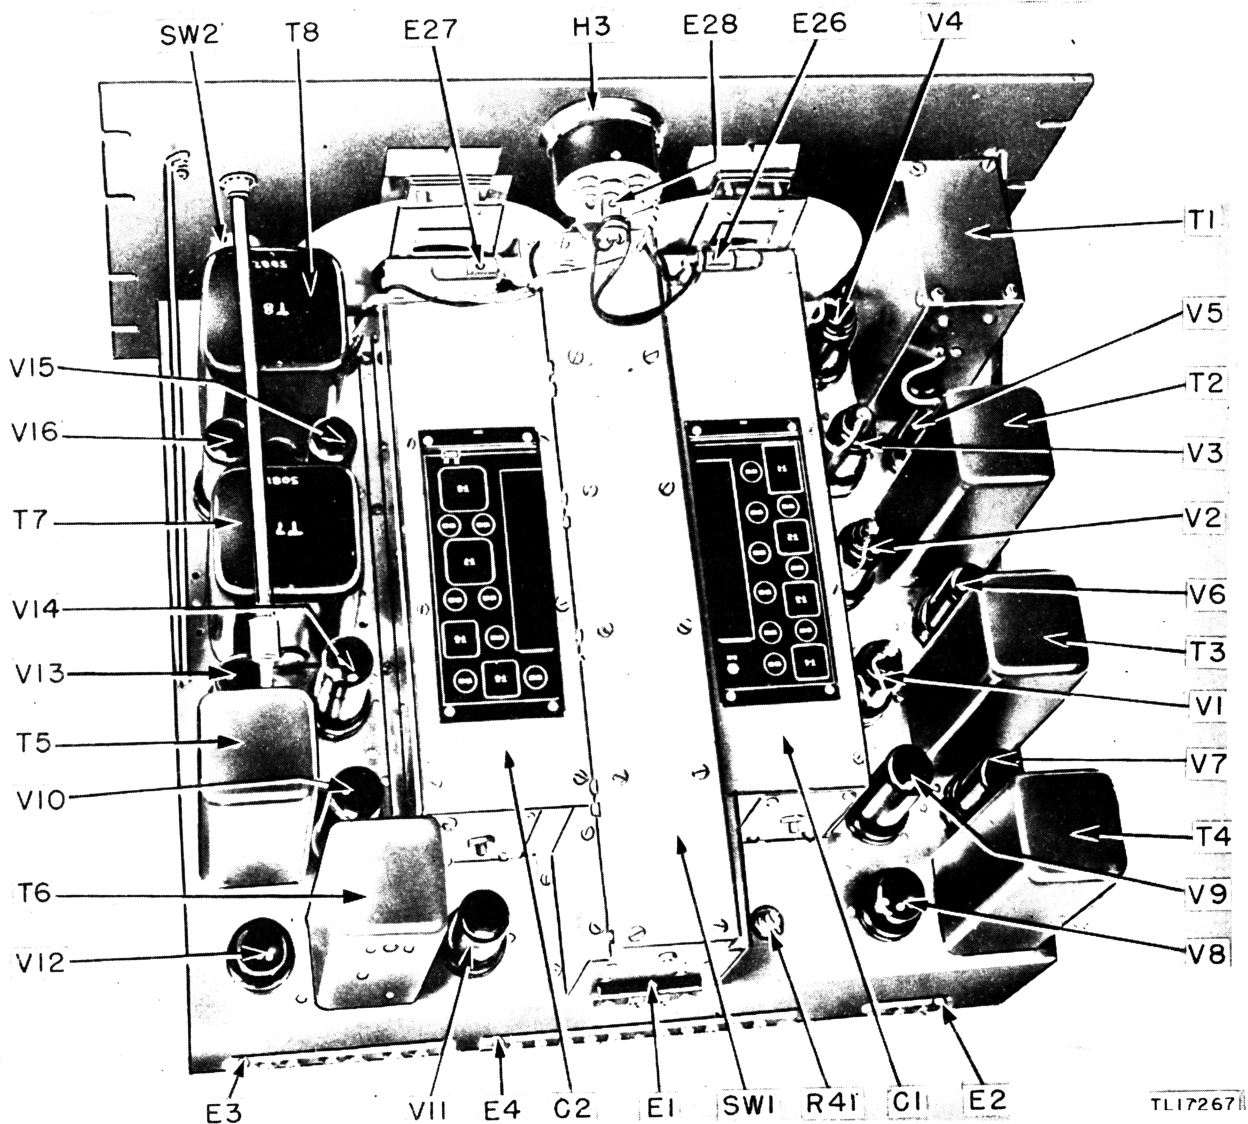
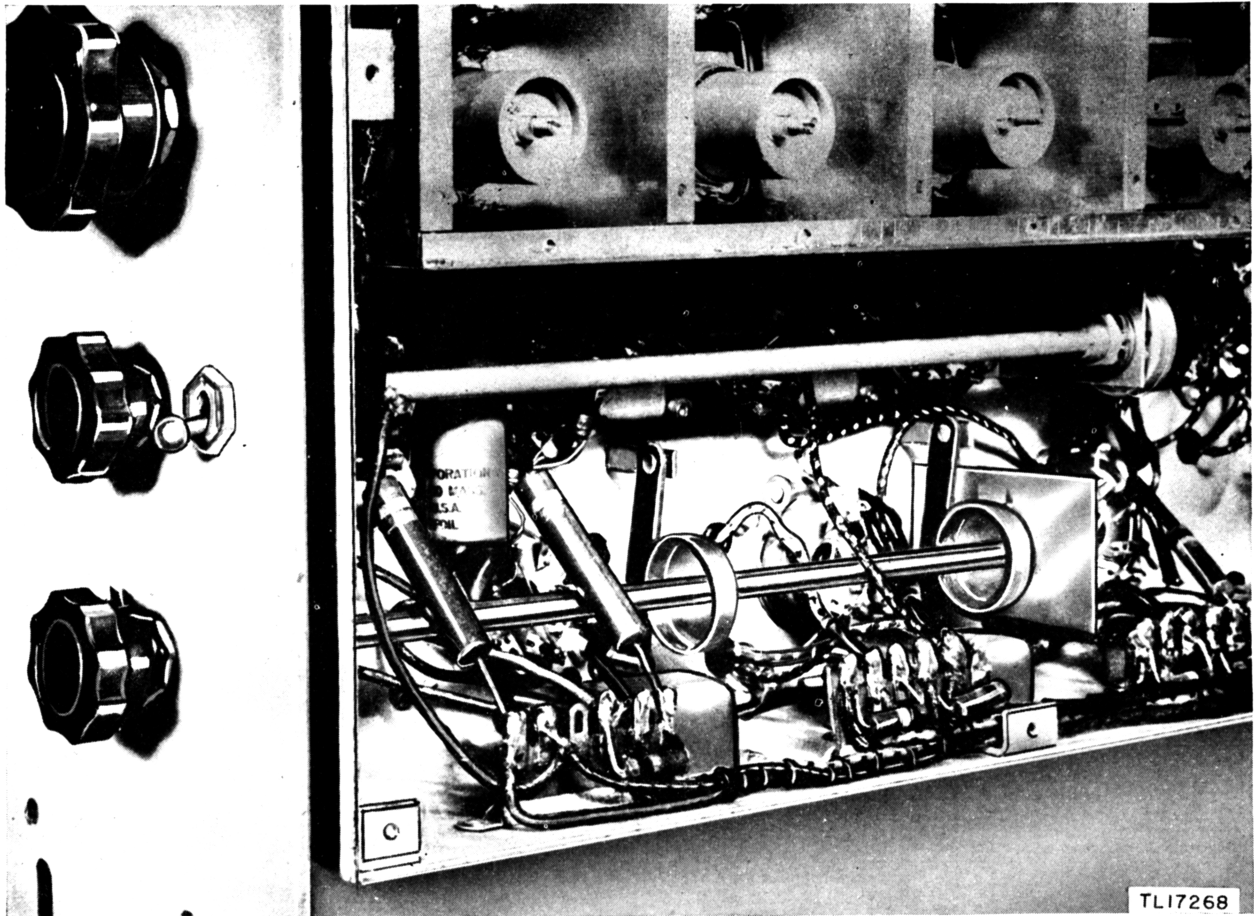

Figure 4. Top view of chassis.
Figure 5. Band width camshaft and plunger arms.
9. Removal of Tubes and Pilot Lights (fig. 4)
The dial lights (I1 and I2) are 6- to 8-v, 0.15-amp miniature screw base lights, and can be seen mounted in their sockets directly behind the tuning dials. The meter light (I3) is a 6- to 8-v, 0.15-amp miniature bayonet base type and is mounted into the S-meter. (See fig. 4 for placement of tubes.)
- (1) Tube sockets.
- (2) BAND WIDTH camshaft and plungers (fig. 5).
To provide smooth motion in moving parts, lubricants are not recommended. Binding posts may be polished or cleaned. The plunger arms in the phasing adjustment, figure 5, may be eased with a light coat of petrolatum, U. S. Army 2-67A. This same procedure may be used on the plunger shafts in transformers T2, T3, and T4, see figure 4.
d. **REPLACEMENT OF TUBES.** When resistance measurement requirements have been properly met, replace the tubes in their proper sockets. See figure 4 or the location diagrams riveted to the top of the tuning unit.